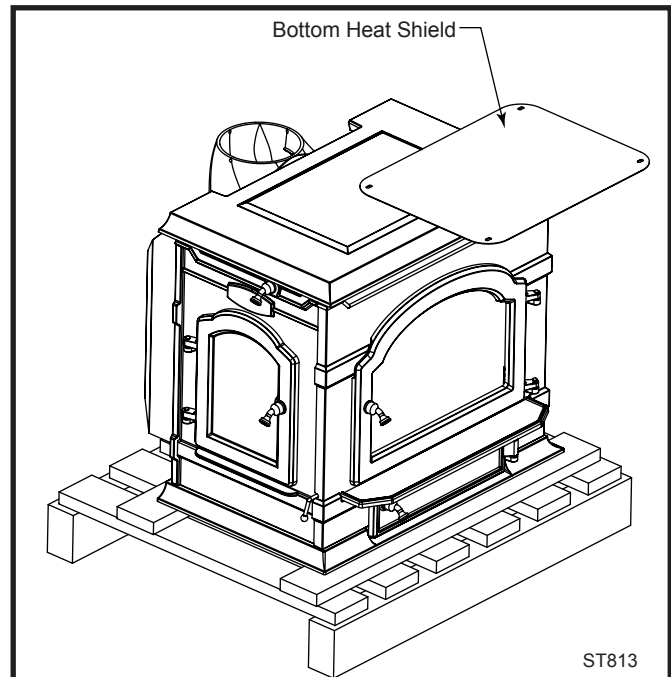

Fig. 15 Remove bands holding stove to pallet and remove heat shield from top of stove.
1. Remove the band that holds the stove to the pallet and remove the bottom heat shield that was positioned on top of the stove. (Fig. 15)